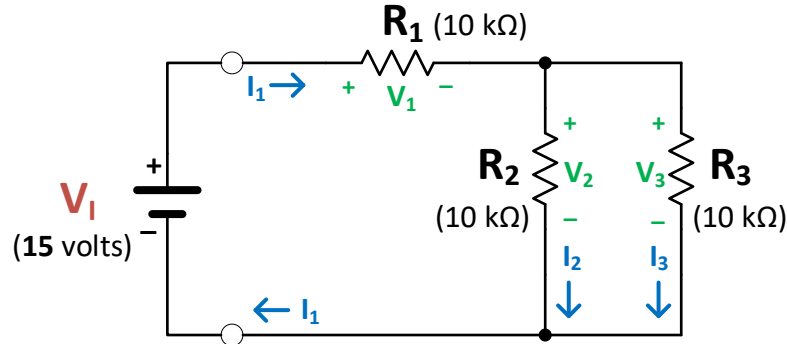
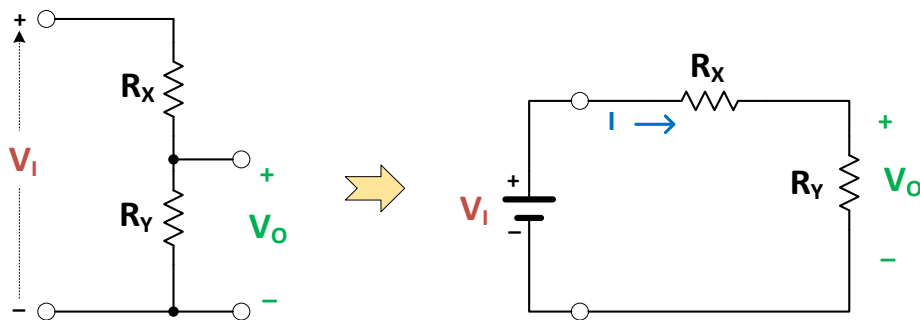
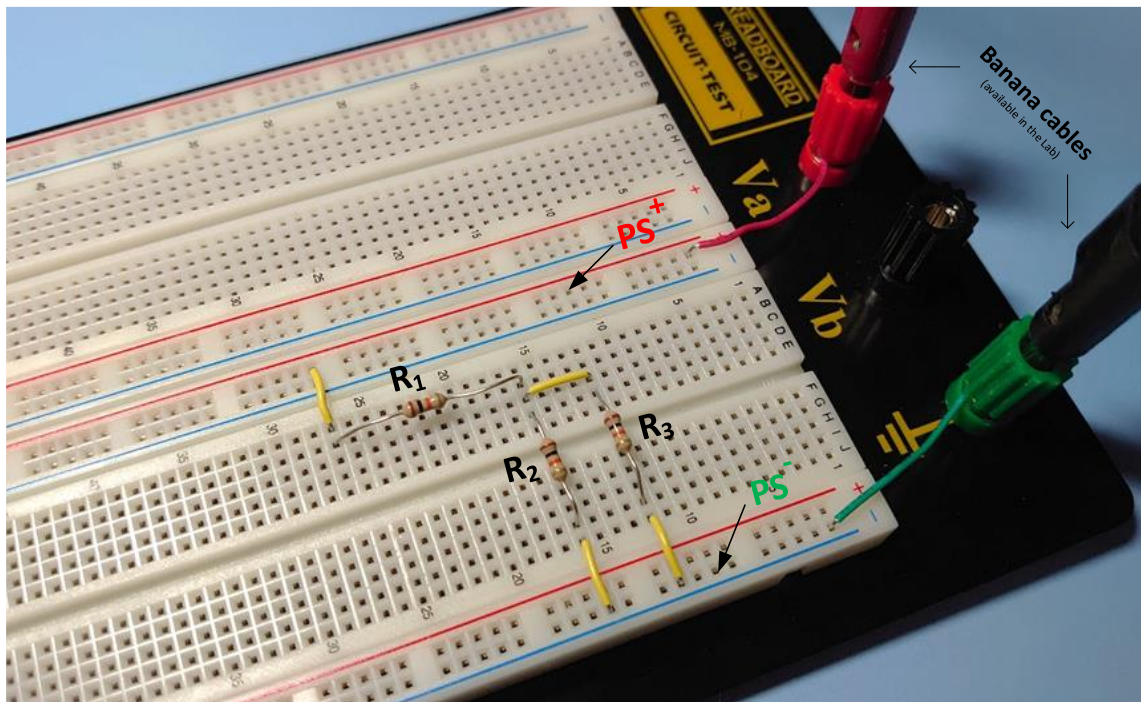

Figure 2.0: Simple D.C. circuit for voltage and current measurements
Figure 2.1: Simple voltage-divider circuit
Figure 5.0b: Example of breadboard setup for the circuit in Figure 2.0.
- (b) The simple DC circuit in **Figure 2.0** is powered by a **15 volts** DC battery input-source (V_1) which will cause currents to flow through the resistors, R_1 , R_2 and R_3 as illustrated. When current flows through a resistor, it creates a voltage across the resistor as governed by the **Ohm's Law** expression, $V = I.R$. The **Kirchhoff's Current Law** (KCL) states that the sum of all currents entering (or leaving) a node is zero. Therefore, $I_1 + (-I_2) + (-I_3) = 0$, resulting in $I_1 = I_2 + I_3$.
- (c) The circuit in **Figure 2.1** is a simple voltage-divider configuration that uses two resistors in series to create an output voltage, V_o which is a fraction of the input voltage, V_i . The basic circuit laws dictate that the circuit current, I and the resultant voltage division output, V_o of this basic circuit configuration can be expressed as:
For the resistor values selected for circuits in **Figure 2.0** and **Figure 2.1**, and comparing your results in **Table 2.0** with those in **Table 2.1**, answer the following questions:
Implementation of the Simple DC Circuit in Figure 2.0
1. Turn OFF the Power Supply (PS) and the DMM multimeter.
2. Follow proper breadboarding procedures to neatly construct the DC circuit in **Figure 2.0** on your breadboard using the three 10 k Ω resistors that were previously marked and identified as **R₁**, **R₂** and **R₃**. For convenience, connect a red wire from the **RED** binding terminal to one of a “red lined” horizontal node on the breadboard, and a green wire from the **GREEN** binding terminal to the “blue lined” common node. This way, the “+” side of the input DC voltage, **V_I** from the Power Supply can be securely connected to the **RED** terminal with a **banana** cable, and the “-” side of the input DC voltage from the Power Supply securely connected to the **GREEN** binding terminal using a second **banana** cable. *Banana cables are made available in the lab room.*
Below **Figure 5.0b** shows a possible breadboard setup of the DC circuit in **Figure 2.0** to serve as a reference guide.
Below **Figure 5.0c** shows a possible simulation breadboard setup on the Multisim 14.2 of the DC circuit in **Figure 2.0** to serve as a reference guide.
Table 5.1: Measured values (*on Multisim*) for the circuit in Figure 2.0
Implementation of the Voltage-Divider circuit in Figure 2.1
2. Modify your existing breadboard circuit in **Figure 2.0** to construct the voltage-divider circuit in **Figure 2.1**, as follows:
- Leave resistor, R_1 (10 k Ω) from the previous circuit in place to serve as the required value for resistor R_X (10 k Ω) of the voltage-divider circuit in **Figure 2.1**.
- Replace resistor, R_2 (10 k Ω) in the previous circuit with the 5.1 k Ω resistor to serve as the required resistor, R_Y of the voltage-divider circuit in **Figure 2.1**.
3. Turn ON the Power Supply (PS) and set its voltage value to 15 volts for your V_I input source.
With reference to the “Simple DC Circuit” in **Figure 2.0**:
With reference to the “Simple Voltage Divider” circuit in **Figure 2.1**: